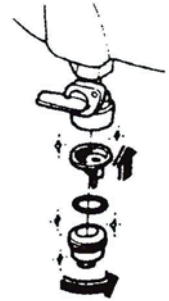

Fig. 45
7.4.3 Mount the fuel filter cup and gauze to their original position. (Figure 45)